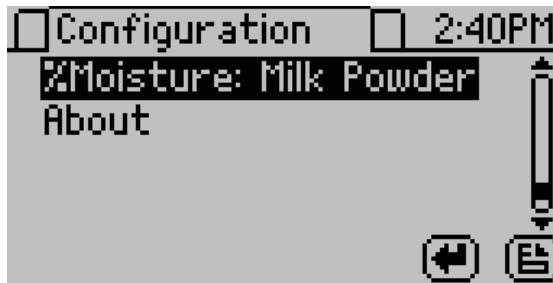

Figure 12 Changing moisture content model on the Configuration tab
1. Press **MENU** to navigate to the Configuration tab (Figure 12).